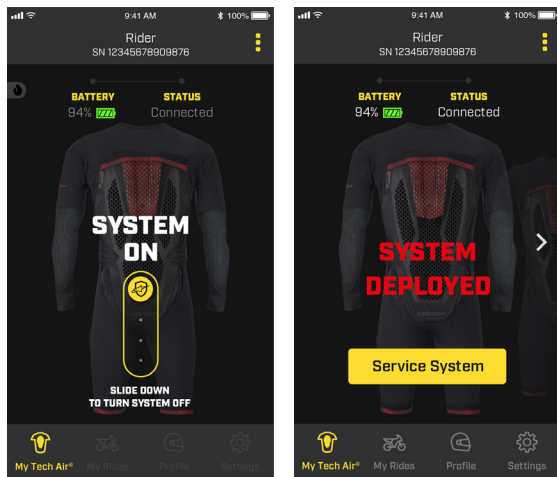

Figure 16
While riding, "System On" mode is active and accordingly, for safety reasons, the user cannot access most of the App functions. In case the System needs to be disabled by the user, such as during a heavy off-road riding session, the System can be turned off using the slide icon on the App (as shown in Figure 16). To reactivate, open and close the Activation Belt (4). In case of deployment, the App will show the relevant status with the wording "SYSTEM DEPLOYED" as depicted in Figure 16.